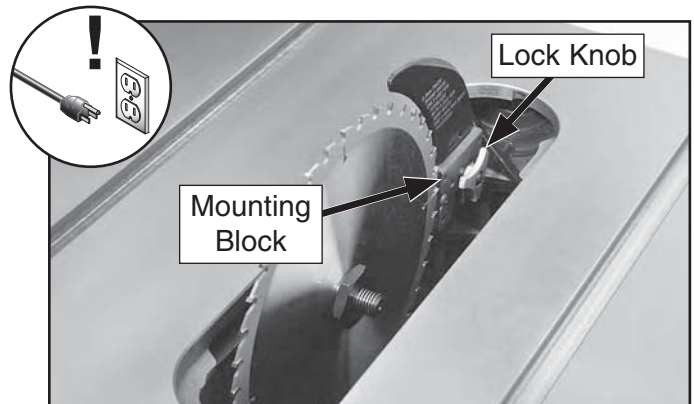

Figure 118. Lock knob location.
4. Re-install the spreader/ripping knife, tighten the lock knob (see **Figure 118**), then re-install the table insert.